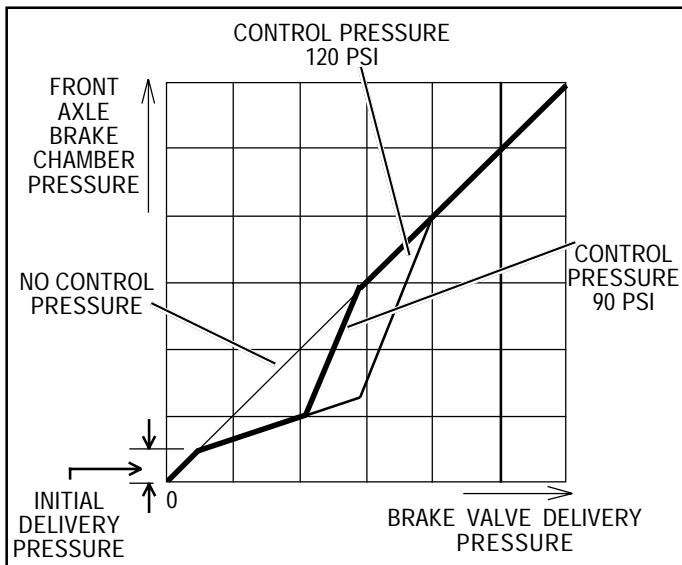

FIGURE 3 - LQ-5™ BOBTAIL RATIO VALVE PERFORMANCE CURVE
**Note:** LQ-5™ valve control pressure, which comes from the trailer supply line, will vary. As a result, the LQ-5™ valve delivery and blend back ranges will also vary, because the blend back piston works against control pressure. Figure 3 shows the LQ-5™ valve delivery range at two control pressures: 90 psi and 120 psi.
Service brake pressure enters the LQ-5™ valve supply port and combines with the force of the blend back spring to work against control pressure. When service pressure is sufficiently high (see Figure 3), the total downward force begins to overcome the upward force of control pressure on the blend back piston. The blend back piston is forced into contact with the proportioning piston. Both pistons now move as one. Because of the added surface area of the blend back piston, LQ-5™ valve delivery pressure “catches up” as supply pressure increases. When the piston assembly contacts its seat in the body, the LQ-5™ valve delivers full application pressure. There is then a 1:1 ratio between supply and delivery.